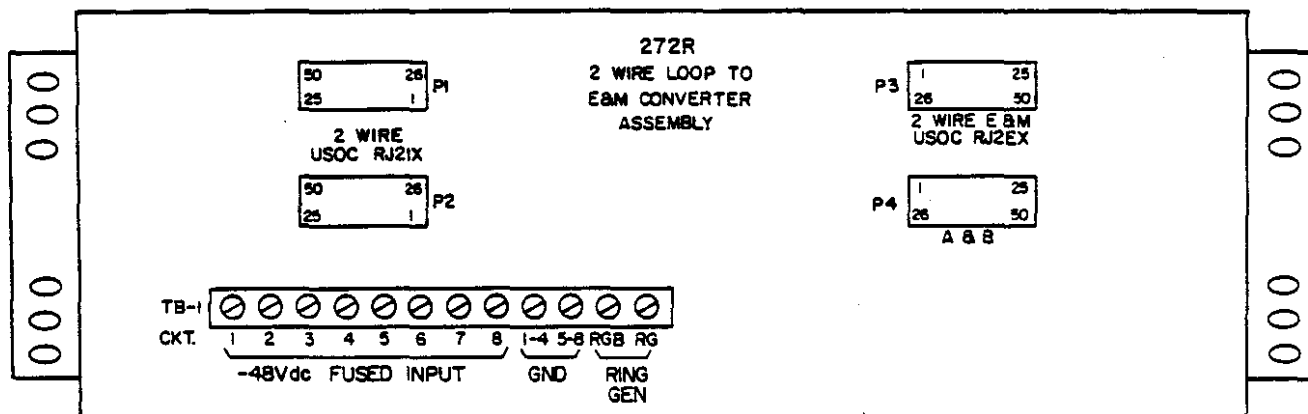

figure 4. 272R Assembly backplate
3.03 Power and ringing generator connections are made with 18AWG wire to 12-position barrier-type terminal block TB1 located on the rear of the 272R Assembly. Power must be applied only after all wiring is completed and all modules are properly optioned. Reference to figure 4 will aid in completing this procedure.
3.04 Using connectorized cables (not included with 272R), make the following connections to the appropriate connectors on the 272R Assembly's backplate (see figure 4):